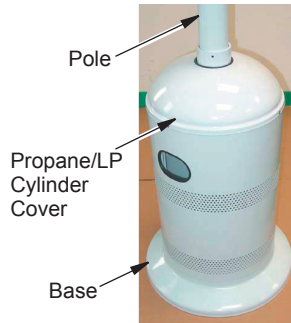

Figure 4 - Propane/LP Cylinder Cover
6. Put propane/LP cylinder cover on base assembly (see Figure 4). Slide propane/LP cylinder cover over pole and pole support. Be sure that propane/LP cylinder cover rests level on the base.